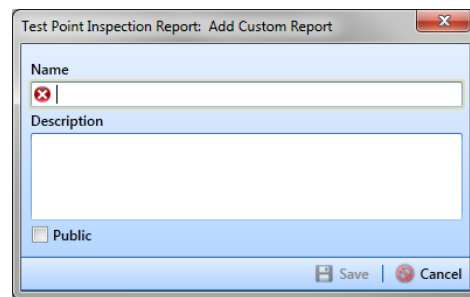

Figure 14-28. Add Custom Report
- 2 Click **Reports/Graphs**, navigate to a report in the list, then click  **Add Report** to open the *Add Custom Report* dialog box (Figure 14-28, page 563).